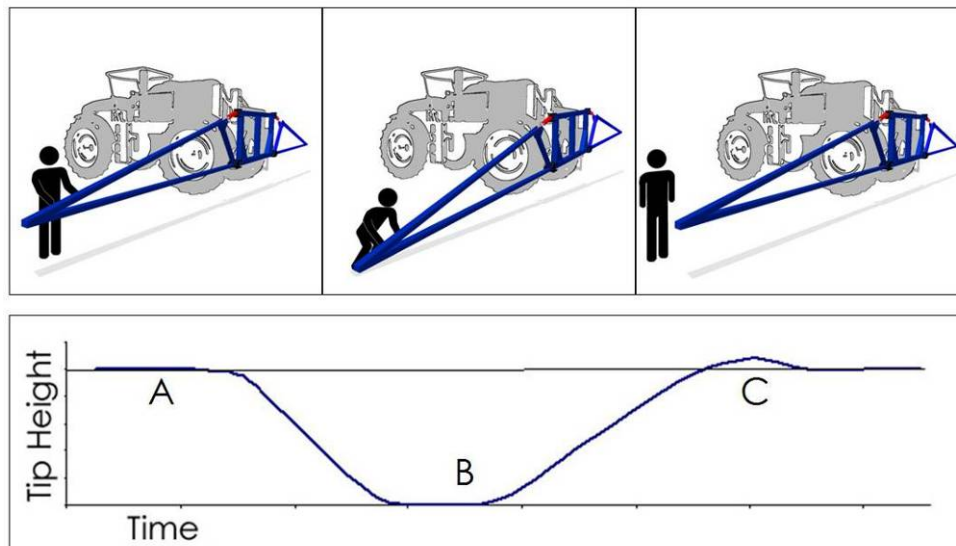

Figure 4 –Boom push test- critically damped
4. Set boom suspension to be critically damped (Figure 4). Adjust the boom damper accordingly.